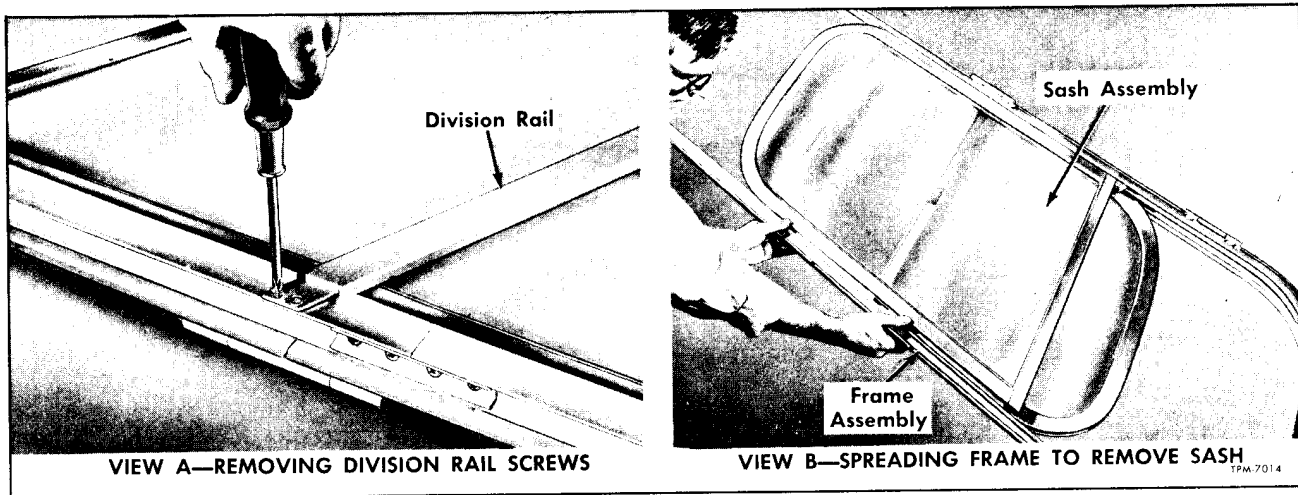

Figure 10—Replacing Long Sash Sliding Sections
2. Remove two screws which attach one end of tie bar to window frame (View "A," fig. 10). Purpose of tie bar is to prevent window frame from spreading in the center when window is being carried or when in emergency escape position.
3. Referring to View B, fig. 10, spread window frame in the center only enough to permit removing sash and glass sections from frame channels.
4. Spread window frame apart at center only sufficiently to allow installing sash in frame channels (View B, fig. 10).
5. Install tie bar to window frame with screws (View A, fig. 10).